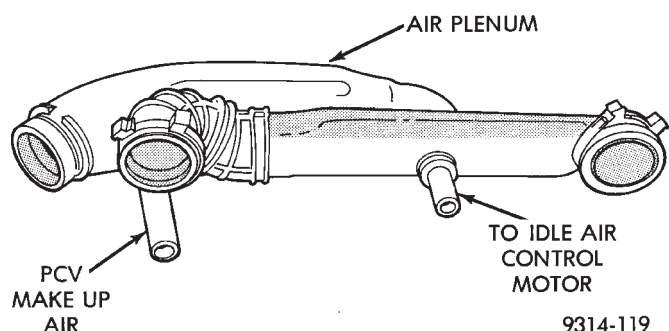

Fig. 10 Air Plenum—3.5L Engine
(8) On 3.5L engines, ensure the air plenum hoses are attached to the idle air control motor and the make up air nipple for the PCV system (Fig. 10). Also ensure the PCV hose is connected to the PCV valve, not the idle air control motor.